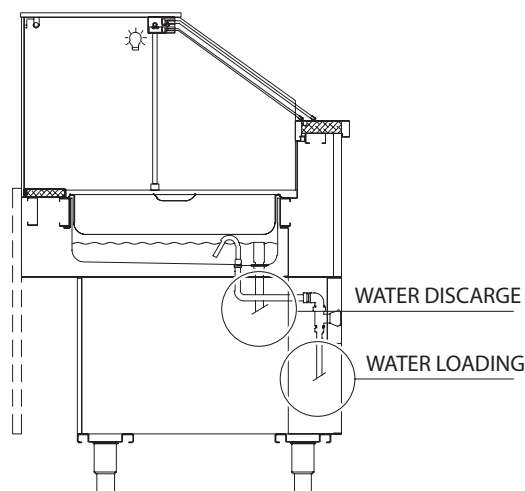

fig. 10
- Connect the water loading and unloading via the supplied connections (fig.10)